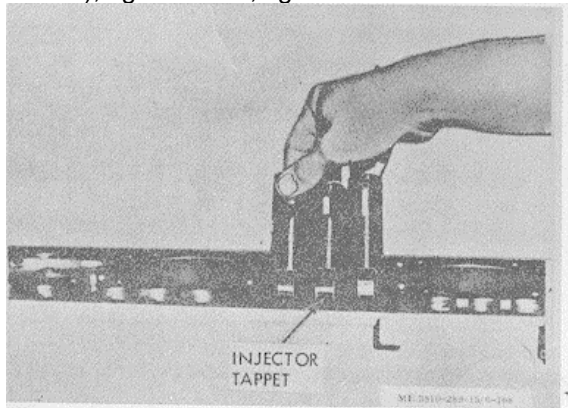
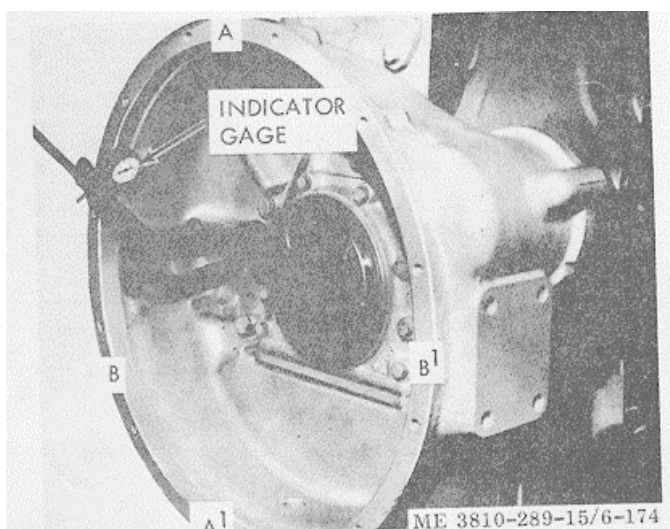

Figure 3-162. Tappet installation.
Figure 3-168. Flywheel housing indicator gage installation.
(1) Install tappets in block; injector tappets slightly larger than valve tappets and are installed between each pair of valve tappets (fig. 3-162).
(2) Aline slots in tappet walls with tappet guide screw holes in block.
(3) Install tappet guide screws (with nylon inserts), figure 3-168; tighten to 95/115 in.-lb.
(1) Attach indicator gage to crankshaft flange as illustrated in figure 3-168.
(2) Draw chalk marks at A, A', B and B'.
(3) Check readings at B and B'. If total runout exceeds 0.010 inch, use a pinch bar to move housing one-half distance of total indicator reading in order to center housing horizontally.
(4) Check readings at A and A'. If total runout exceeds 0.010 inch, use a pinch bar to pry housing